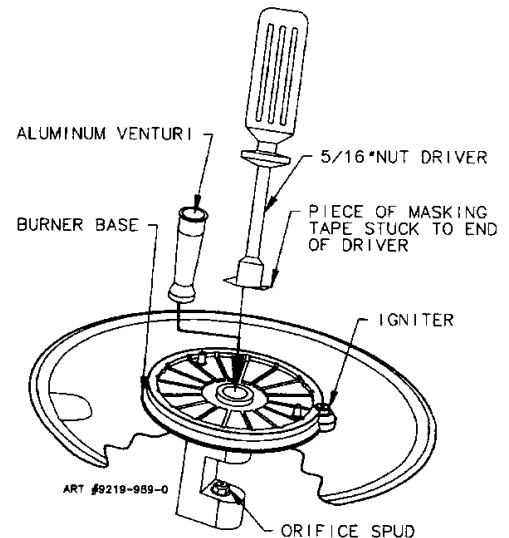

Figure 5: Removal of Orifice Spud
Step 4: Firmly press the nut driver over the orifice spud (figure 5) and loosen spud by turning counterclockwise. Carefully lift nut driver out of burner throat. Orifice spud should be captured in the recess. Repeat this step for each burner.